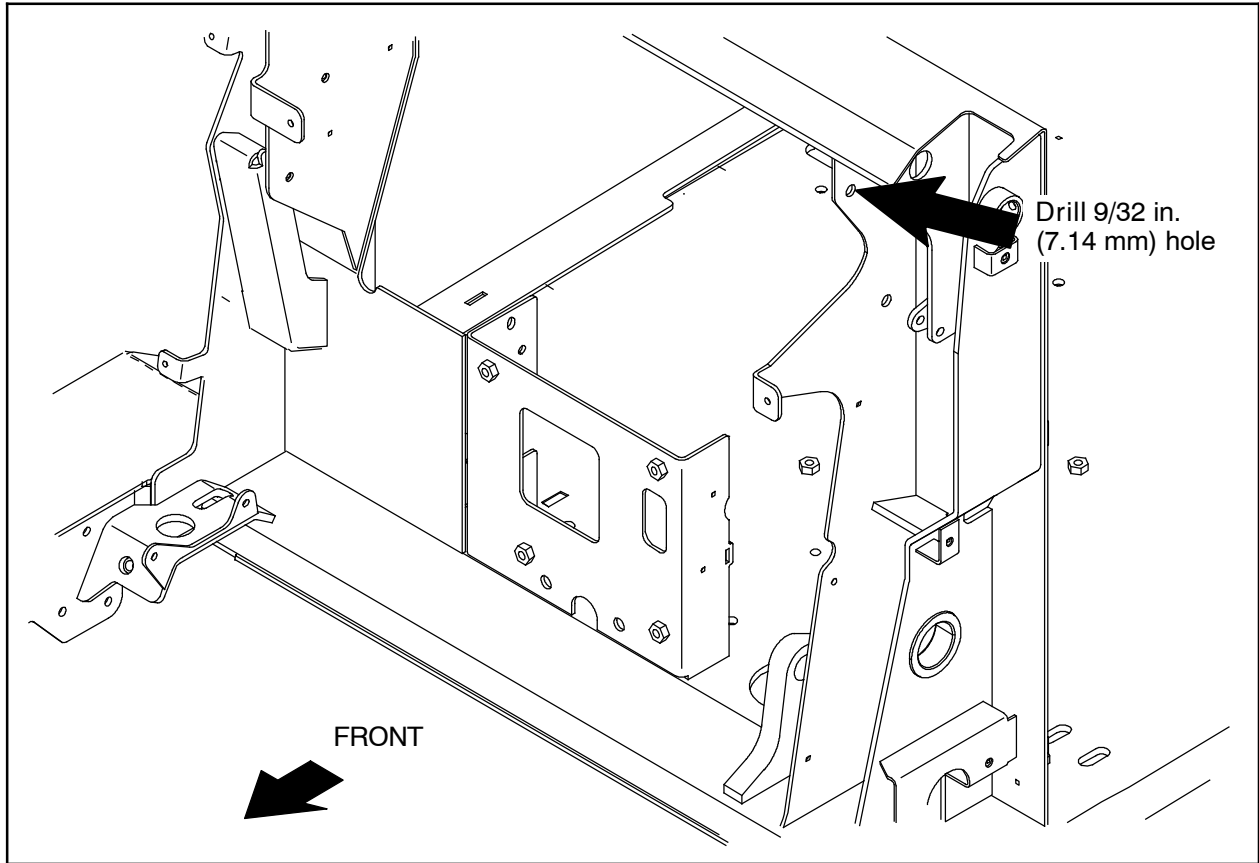
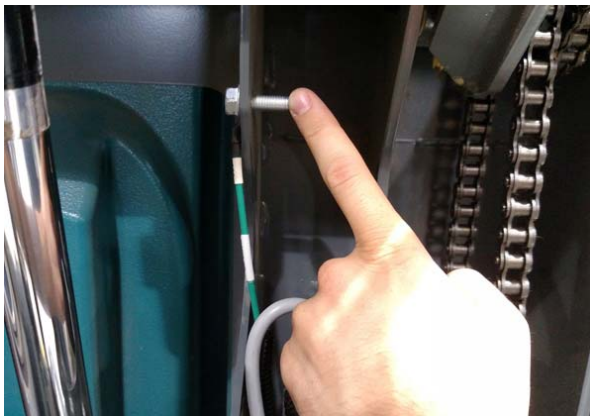
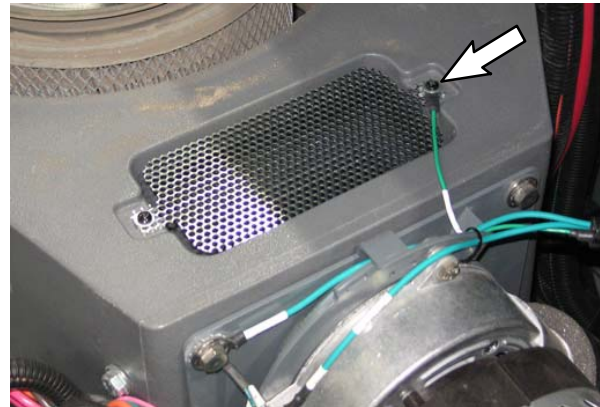
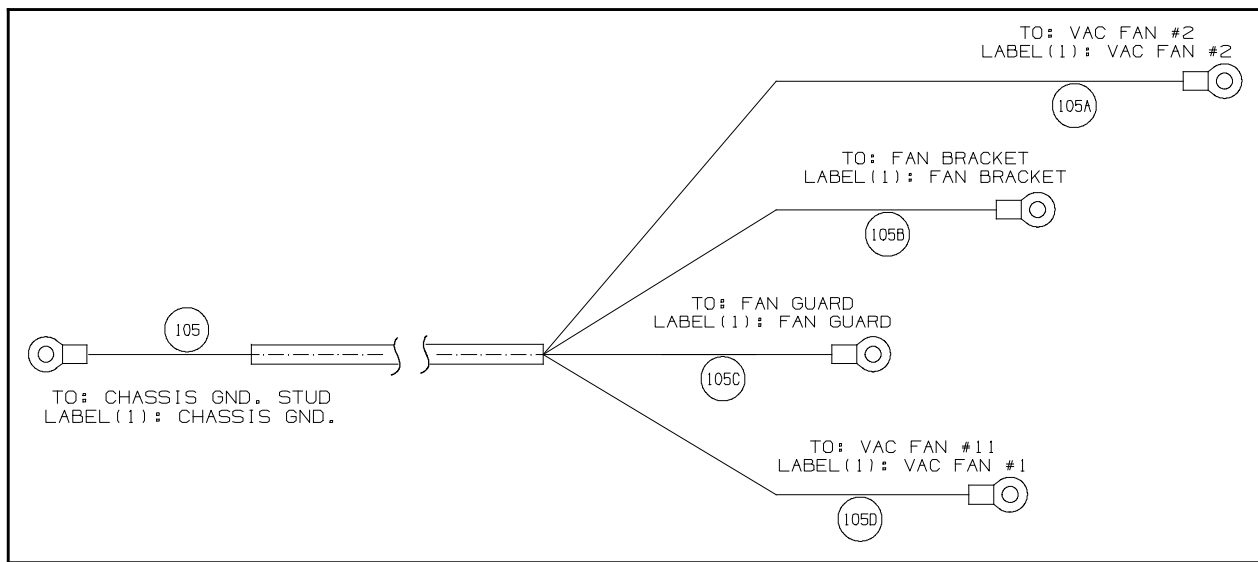

FIG. 1
FIG. 2
FIG. 6
FIG. 9
2. Drill a 9/32 in. (7.14 mm) hole into the frame of the machine. (Fig. 1)
3. Use the M8 thread roller hex screw (2) and lock washer (3) to connect static ground harness (1) lead 105 to the hole drilled into the frame of the machine in the previous step. (Fig. 1 / Fig. 2 / Fig. 9)
6. Use the M8 hex screw and flat washer located on the fan bracket to connect static ground harness (1) lead 105B to the fan mounting bracket. (Fig. 3 / Fig. 9)
- Use the remaining pan screw and one flat washer (6) to secure the fan guard plate (5) and connect the static ground harness (1) lead 105C into the fan guard plate hole located at the rear of the filter box. (Fig. 6 / Fig. 9)
- Machines with optional lower vacuum fan #2 only:** Use the M6 hex screw and flat washer securing optional vacuum fan #2 motor to the hopper to connect static ground harness (1) lead 105A to vacuum fan #2. (Fig. 7 / Fig. 9)